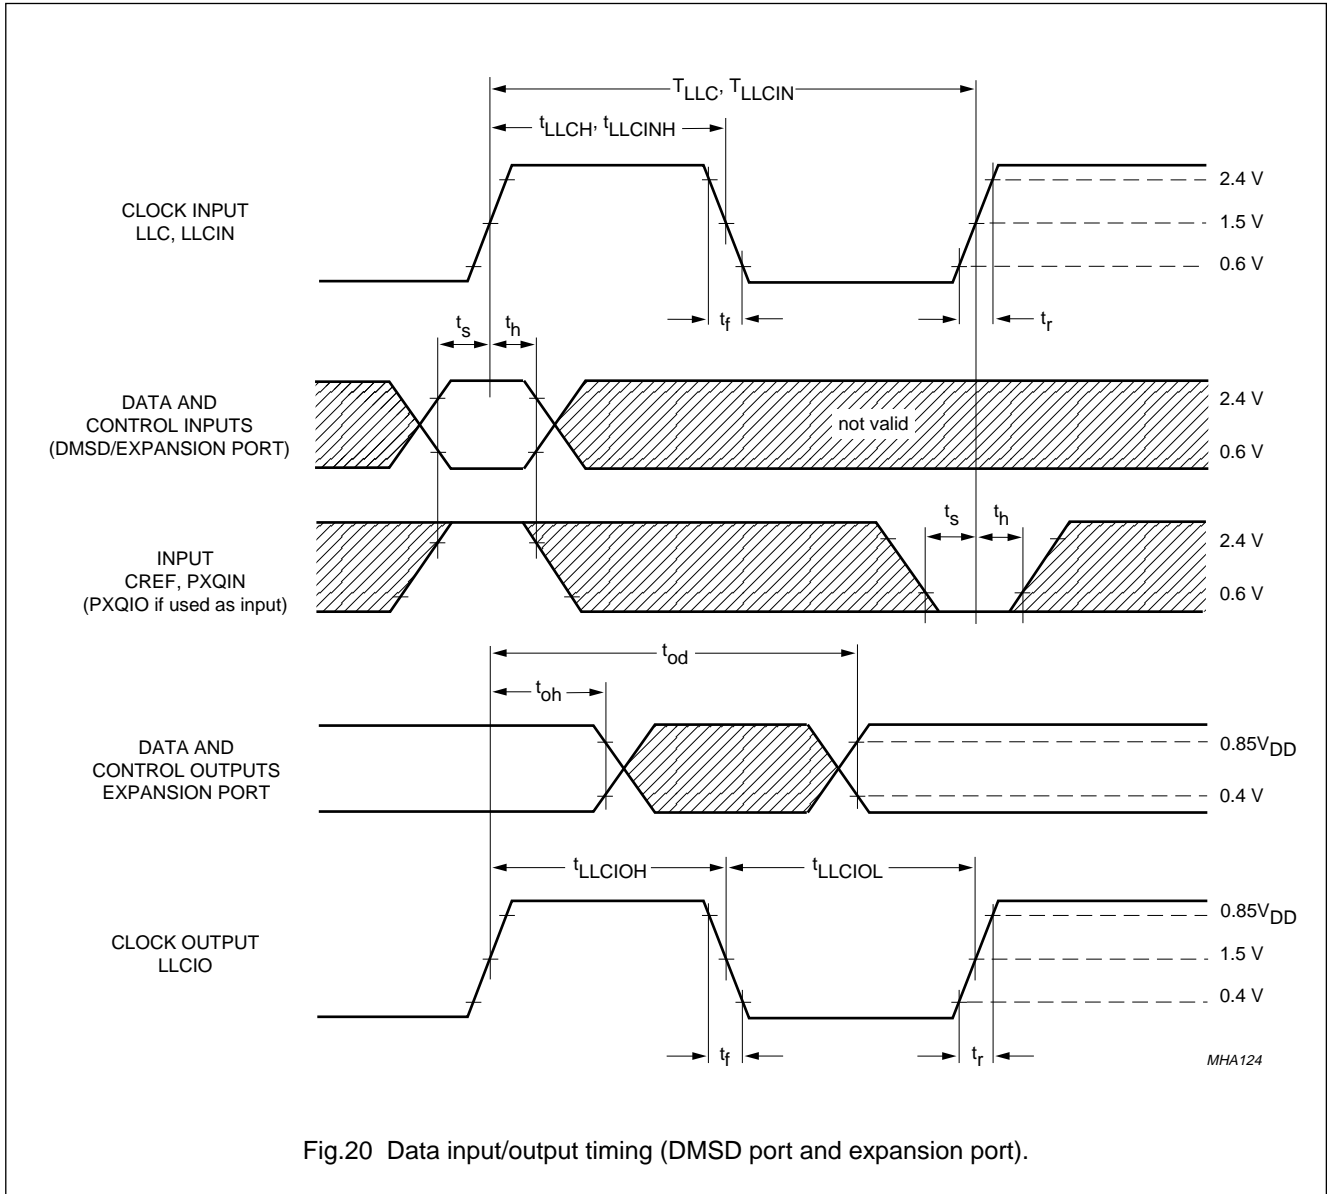

Fig.20 Data input/output timing (DMSD port and expansion port).
Clock input timing (LLC, LLCIN and LLCIO as input) (see Fig.20)
Data and control input timing, related to the corresponding input clock; (see Fig.20)
Clock output timing (LLCIO and VCLK output); note 4 (see Fig.20)
Data and control output timing at the expansion port, related to LLCIO output; (see Fig.20)
4. LLCIOout timing also valid for VCLKout in transparent mode; (see Fig.20).